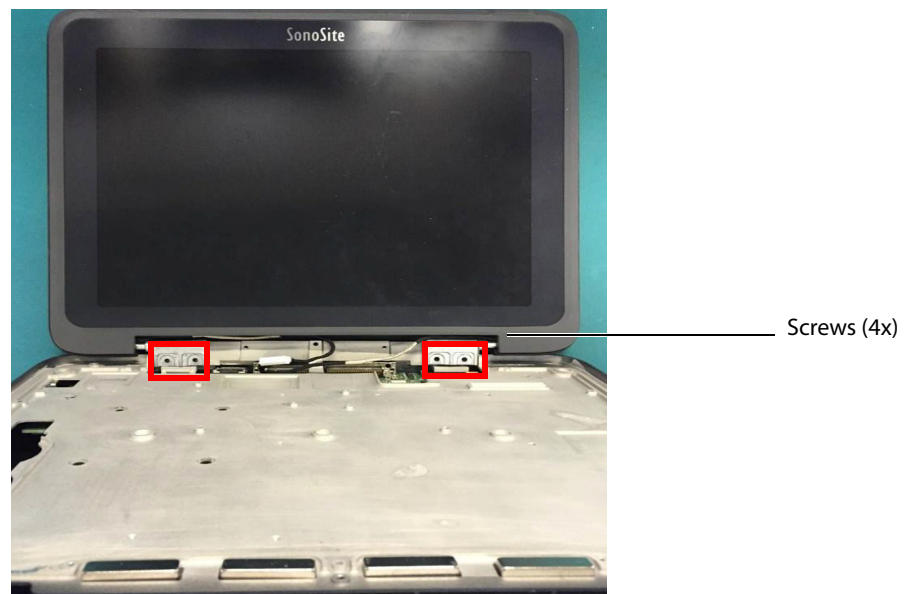

Figure 6.7 Display Screws
- 10 Remove the 4 screws from the LCD display hinges as shown in Figure 6.7 and remove the display LCD.